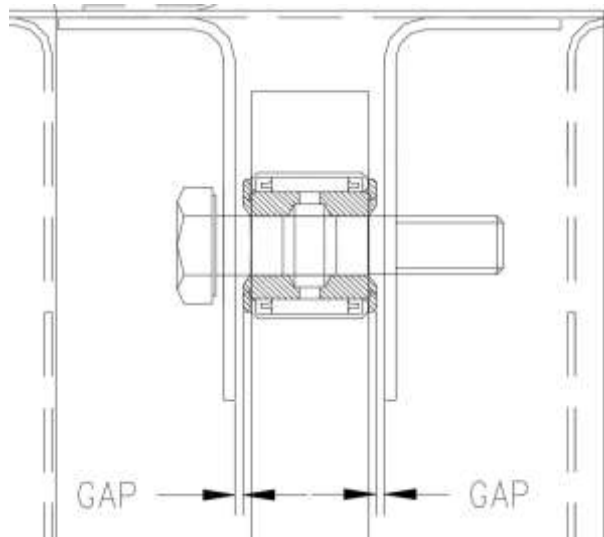

Figure 5 – Measurement of gap for Inboard Hinge
- 8.3. Temporarily locate Inboard and Outboard hinge bolts through elevator and horizontal stabiliser hinges. Measure the gaps between the end washers of the needle roller bearing and inside faces of the Inboard elevator hinges as shown in Figure 5.